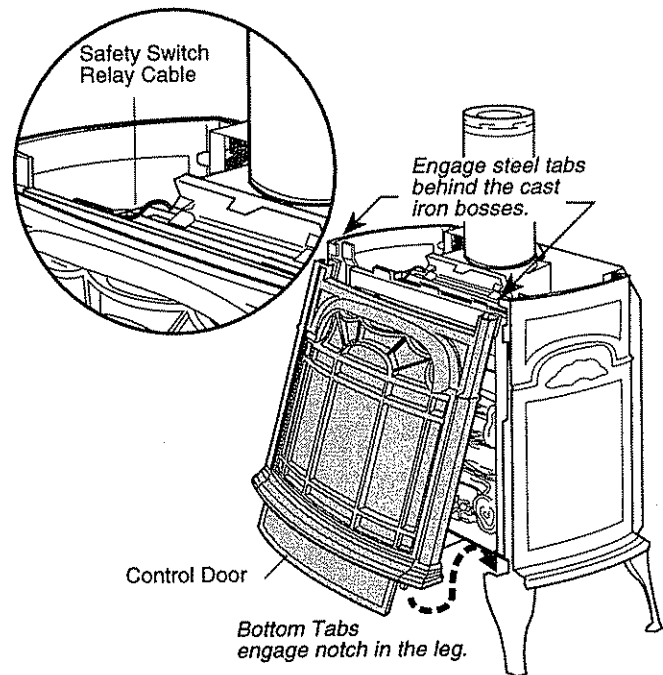

Figure 32. Install the Front Plate.
1. Grasp the Front Plate by the window bars and lift it into position engaging the two steel tabs behind the adjacent bosses in the Side Plates. Fig. 32. Then seat the Front against the sides so that the tabs at the bottom lip engage with the notches in the stove legs.
NOTE: Be sure that the steel safety switch relay cable is positioned over the Heat Exchanger door on top of the firebox. See Figs. 32 and 40a.